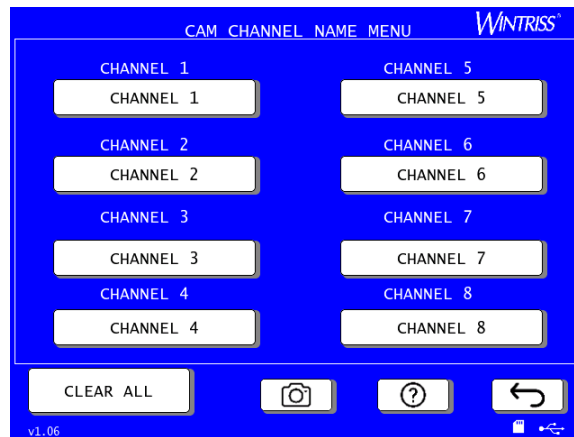

Figure 3-22. Cam Channel Name Menu
2. Press PREV or NEXT to access additional choices. Press SELECT CAM NAMES. The cam channel name menu appears, Figure 3-22.